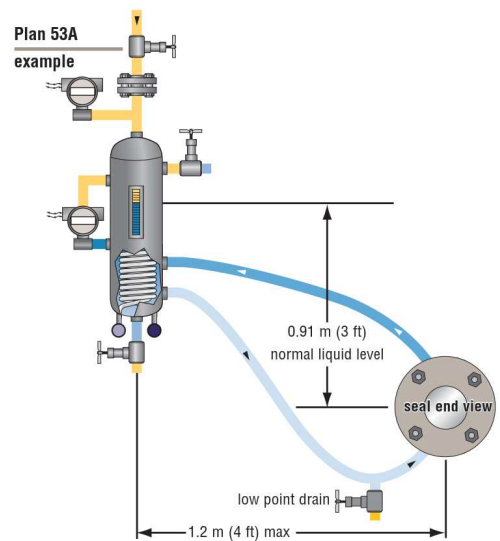

Figure 9: Piping Plan 53A mounting dimensions example
- Generally, the reservoir shall be mounted such that the normal liquid level (NLL) is a minimum of 0.9 m (3 ft) above the seal centerline, and the reservoir centerline is a maximum of 1.2 m (4 ft) horizontally from the pump centerline as shown in Figure 9.